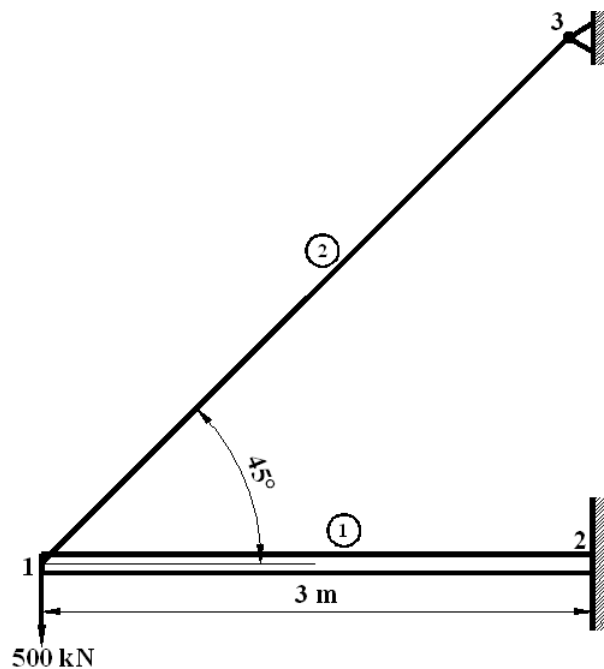

Figure P3.5
5. The bar element 2 is used to stiffen the cantilever beam element 1, as shown in **Figure P3.5**. Determine the displacements at node 1 and the element forces. For the bar, let $A = 1 \times 10^{-3} \text{ m}^2$. For the beam, let $A = 2 \times 10^{-3} \text{ m}^2$, $I = 5 \times 10^{-5} \text{ m}^4$, and $L = 3 \text{ m}$. For both the bar and the beam elements, let $E = 210 \text{ GPa}$.